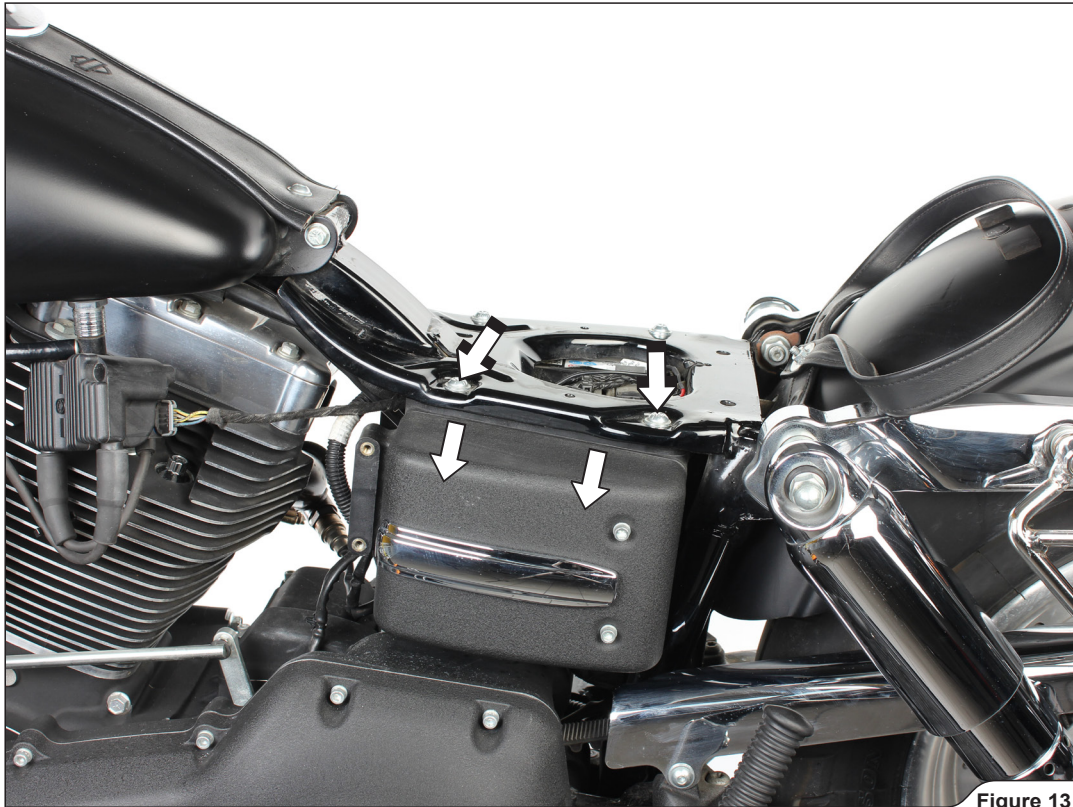

Figure 13
10. Remove marked cover and unscrew marked bolts (Figure 13).